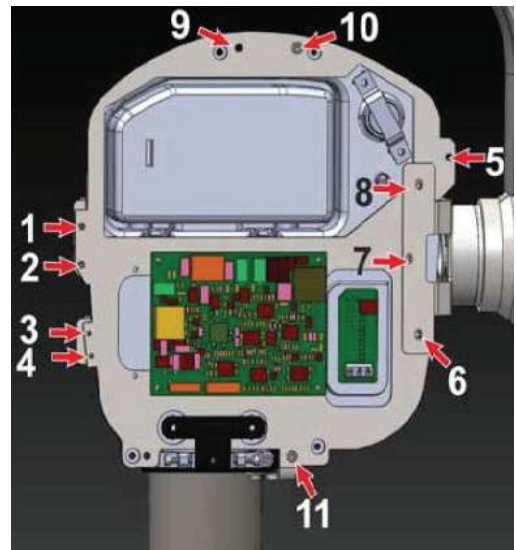

Figure 58
- To remove the HV Tank from the clamp, remove the 5 no's of (M3X6 Hex. socket button head) screws (from 1 to 5 as shown in Figure 58) using 2mm allen key.
- Remove 3 no's of (M3X6 Hex. Soc. Head cap) Screws (From 6 to 8 as shown in Figure 58) on the top of the clamp near Tube Head arm using 2.5mm allen key.
- Remove 3 no's of (M3X16 Hex. Soc. head cap) screws (from 9 to 11 as shown in Figure 58) along with M3 plain washers & M3 nut using 2.5mm allen key and 5.5mm Nut driver.